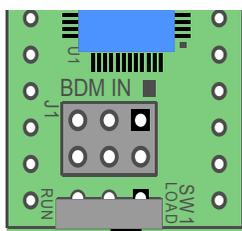

Figure 8 - Switch to Load Mode
1.42 Establishing a Serial Port Connection. Once you have launched uBug12, place the NanoCore12 switch in the **LOAD** position (see Figure 8) and reset your NanoCore12. Then click inside the command window of uBug12 (see Figure 9) and type the command `con 1` in order to establish communication between uBug12 and the NanoCore12 module. If you're using a com port other than 1, substitute the correct number (eg. type `con 3` if you are using com port 3). A **CONNECTED** message will appear in the uBug12 display window showing that the connection was successful.